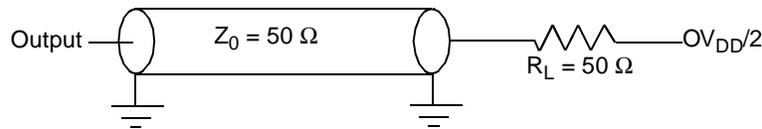

Figure 25. AC Test Load for the JTAG Interface
1. All outputs are measured from the midpoint voltage of the falling/rising edge of t_{CLK} to the midpoint of the signal in question. The output timings are measured at the pins. All output timings assume a purely resistive 50 Ω load (see Figure 25). Time-of-flight delays must be added for trace lengths, vias, and connectors in the system.
2. The symbols for timing specifications follow the pattern of $t_{\text{(first two letters of functional block)(signal)(state)(reference)(state)}}$ for inputs and $t_{\text{(first two letters of functional block)(reference)(state)(signal)(state)}}$ for outputs. For example, $t_{\text{JTDV KH}}$ symbolizes JTAG device timing (JT) with respect to the time data input signals (D) reaching the valid state (V) relative to the t_{JTG} clock reference (K) going to the high (H) state or setup time. Also, $t_{\text{JTDX KH}}$ symbolizes JTAG timing (JT) with respect to the time data input signals (D) went invalid (X) relative to the t_{JTG} clock reference (K) going to the high (H) state. In general, the clock reference symbol is based on three letters representing the clock of a particular function. For rise and fall times, the latter convention is used with the appropriate letter: R (rise) or F (fall).
Figure 25 provides the AC test load for TDO and the boundary-scan outputs of the MPC8347EA.